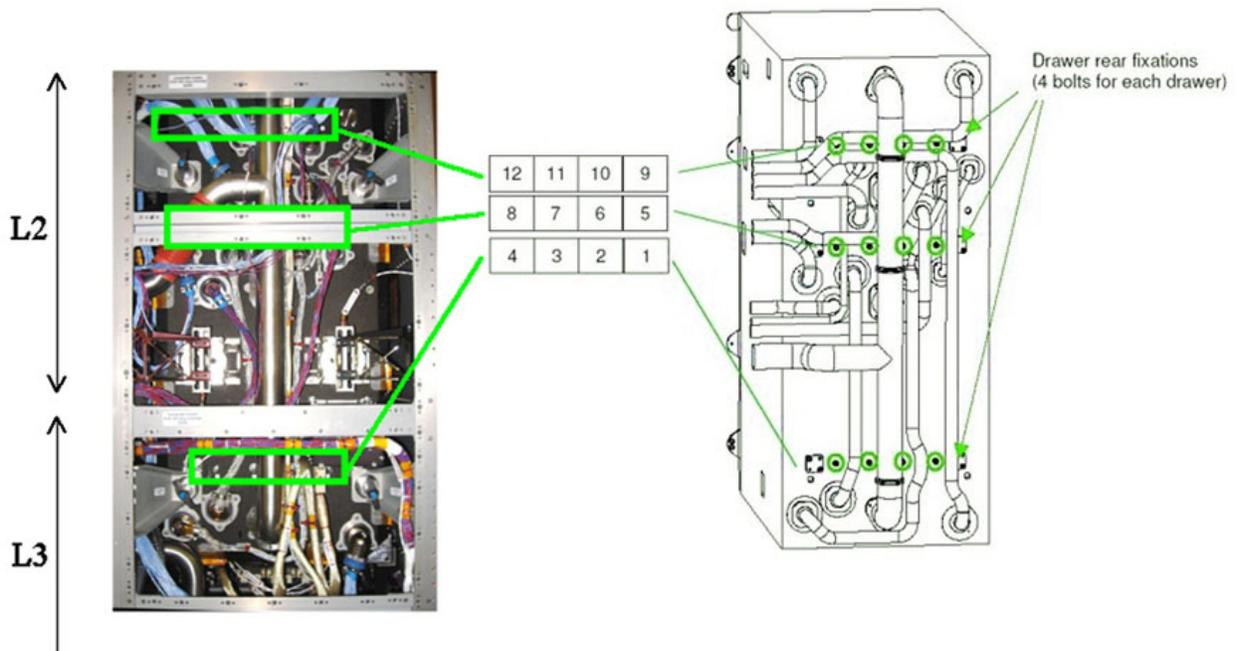
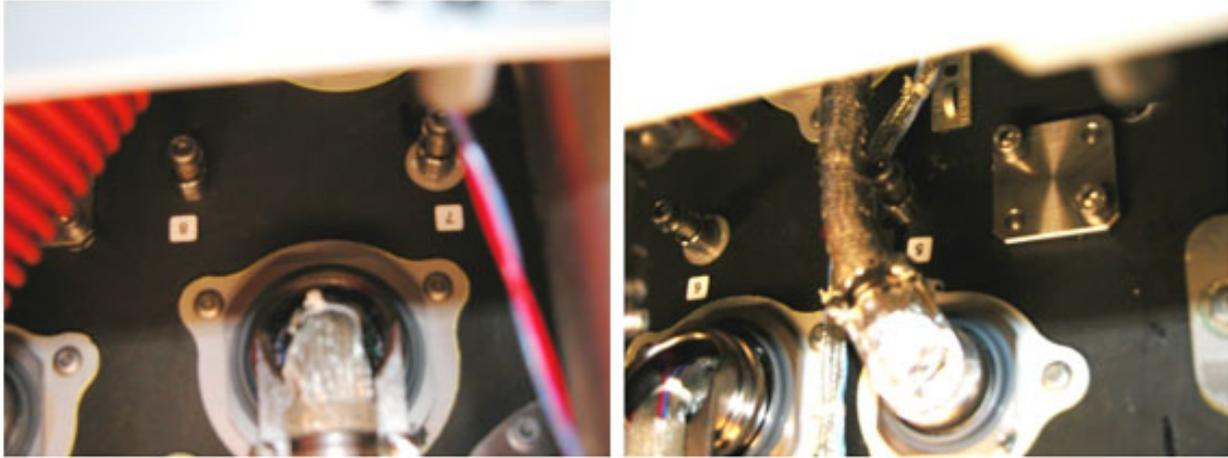

Figure 6. Facility Core Element Fixation Points
Figure 8. Bolts 5 to 8
- 3.3 Completely loosen captive rear fixation fasteners 1 to 12 except 6 and 8 as shown in Figures 6, 7, 8, 9 [Ratchet Wrench 3/8"; 6" Extension 1/4" Drive; Adaptor 3/8" Female to 1/4" Male and M5 (4 mm) Driver 1/4" Drive].
- 3.4 Completely loosen captive rear fixation fasteners 6 and 8 shown in Figure 6 and Figure 8 [Ratchet Wrench 3/8"; 6" Extension 1/4" Drive; Adaptor 3/8" Female to 1/4" Male; Universal Joint 1/4" and M5 (4 mm) Driver 1/4" Drive].